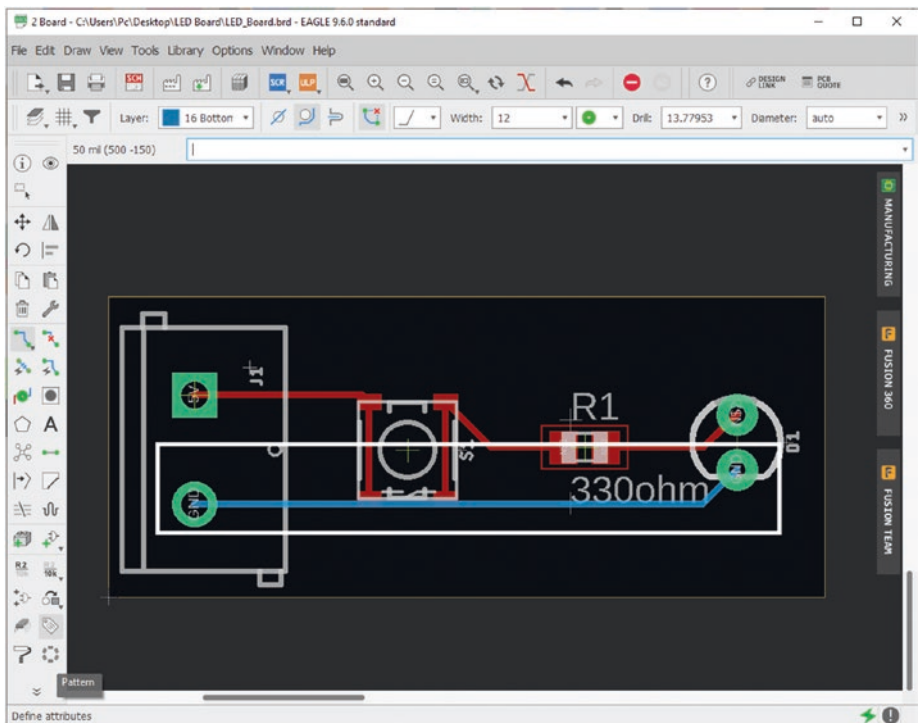

Figure 5-77. Connect the terminal block to GND
26. Select the bottom contact on the terminal block (J1) and connect the other end to the bottom contact of the LED (D1). Because this is on the bottom layer of the board, you can pass right through top layer contacts and routes as long as the contacts are not on the bottom layer as well. A good example of this is that when you pass underneath an SMT (surface mount) part which is only on the top layer, but if there is a through-hole contact, you will have to go around that part. See Figure 5-77.